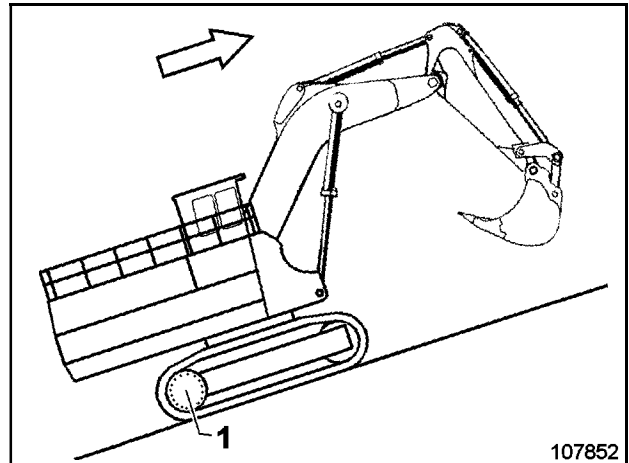
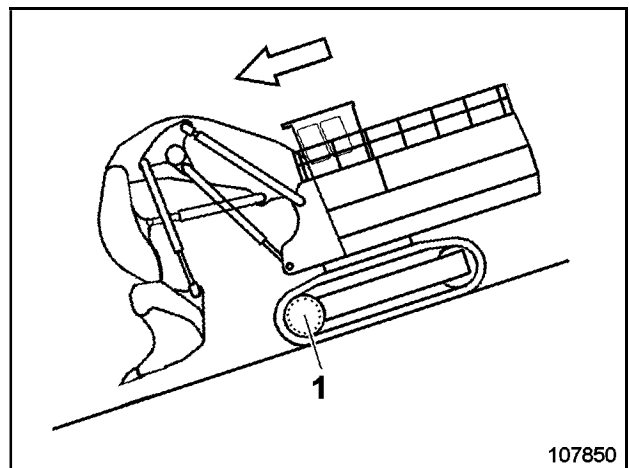
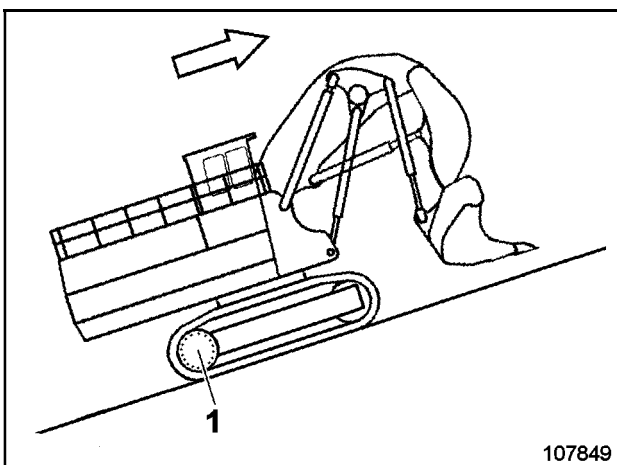
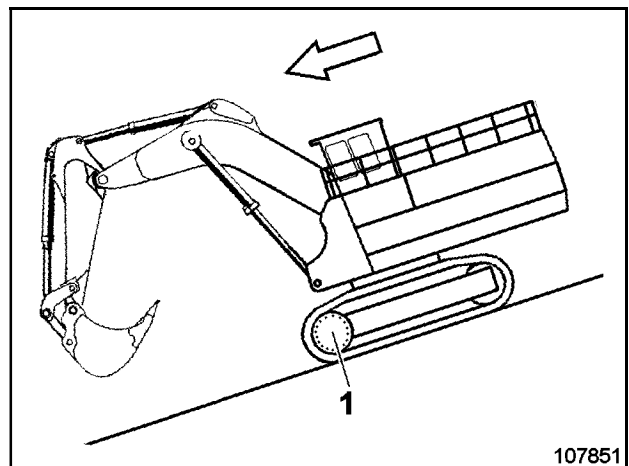

Fig. 2-229:
Fig. 2-230:
Fig. 2-228:
Fig. 2-231:
When traveling uphill or downhill on ramps and steep slopes, the travel drives must always face downhill (1, Fig. 2-228: to Fig. 2-231:).
- Bring shovel in a position shown in Fig. 2-228: and Fig. 2-229:.. The final drives (1) and the counterweight are facing downhill.
- Bring shovel in a position shown in Fig. 2-230: and Fig. 2-231:.. The final drives (1) are facing downhill. The counterweight is facing uphill.